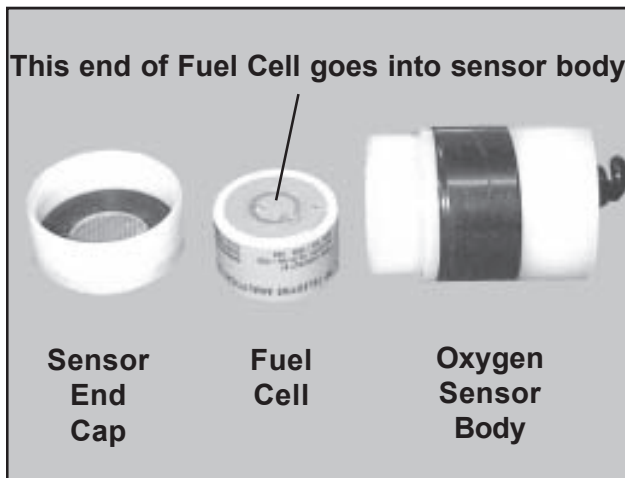

Figure 80. Fuel Cell and Oxygen Sensor Assembly
2. Unscrew the end cap from the oxygen sensor (Figure 80).
5. Gently, screw the sensor end cap (Figure 80) back on. Be careful, the threads are very fine and are easily damaged.